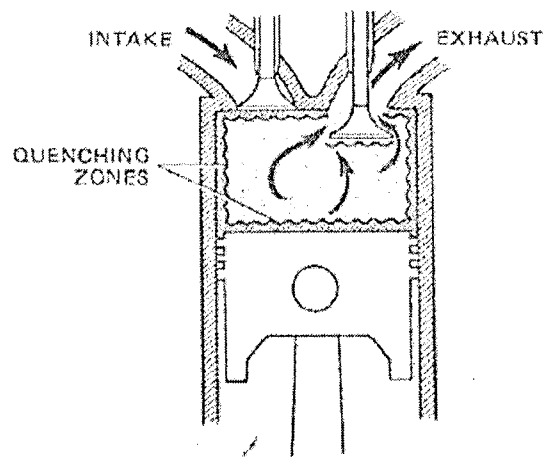

Figure Q3.1: Quenching Zones of a Cylinder
- II. Figure Q3.1 below shows a cross-section of a combustion chamber indicating the quenching zones. 4 marks
With reference to Figure Q3.1, explain the quenching phenomenon and describe how it contributes to the formation of carbon monoxide (CO) and unburnt hydrocarbons (HC) in the exhaust gas.